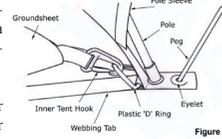

Figure 5
- Gather up the two inner tents, ensuring that its door is closed, and take them inside the flysheet. Start at the rear edge of the inner and clip the hooks that are on the corners of the groundsheet to the "D" rings located on the edge of the flysheet (see figure 5).